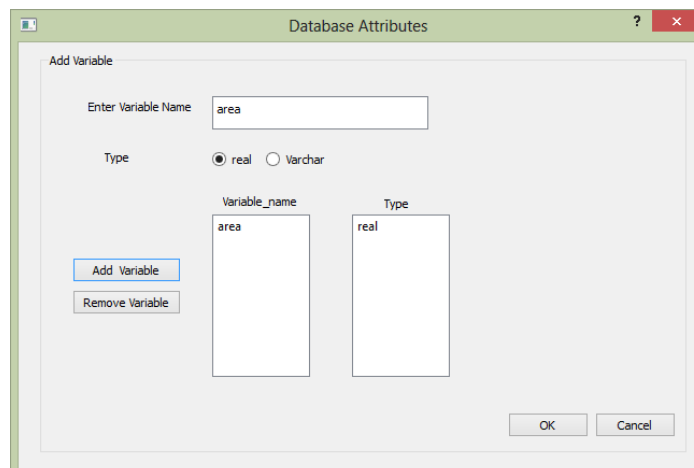

Fig3: Database structure
- Enter the variable name and choose variable type (Fig 3).